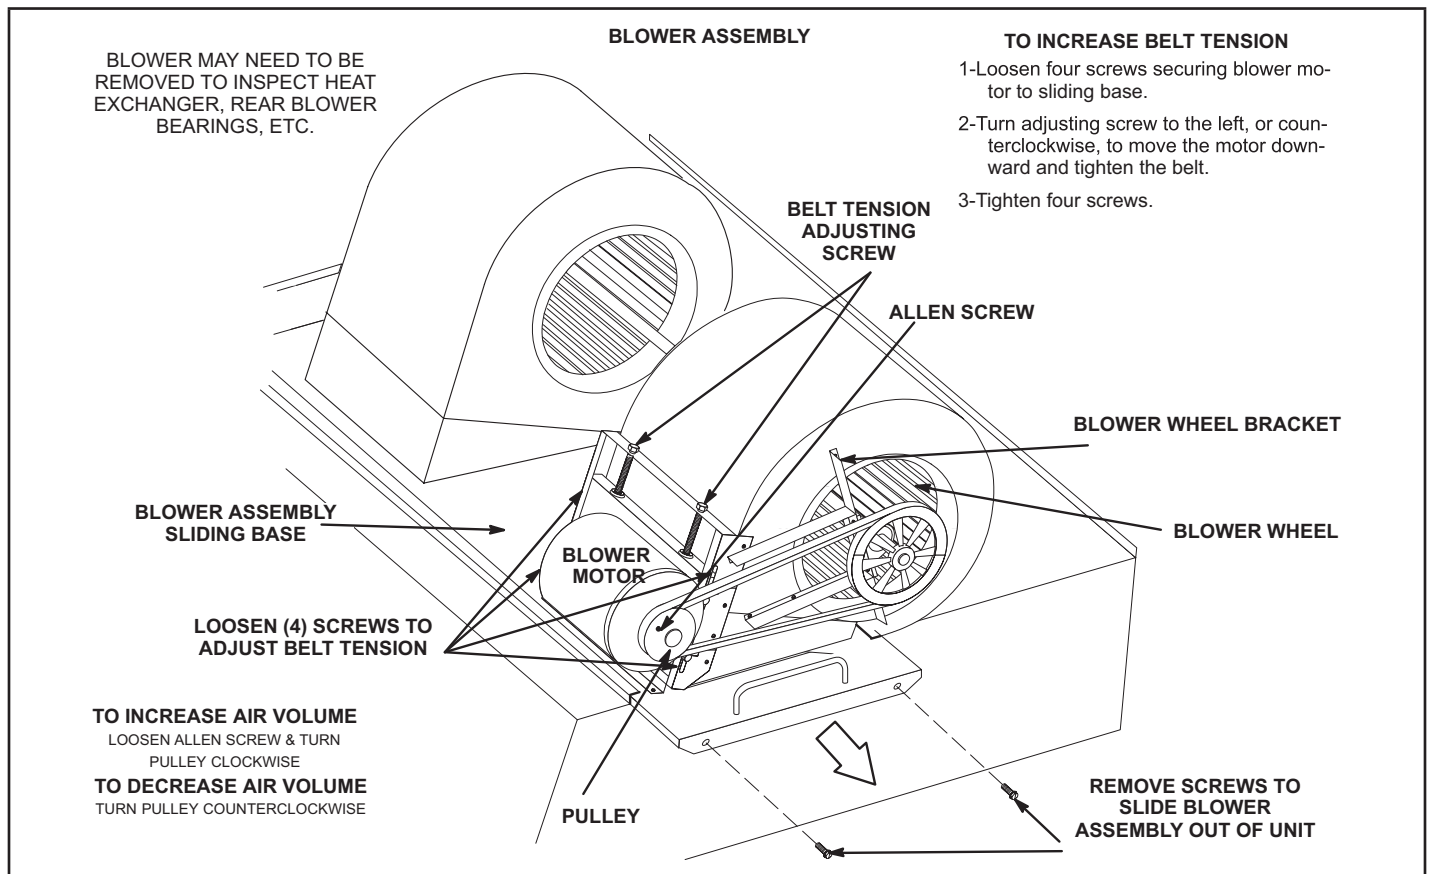

FIGURE 10
The blower compartment is located between the evaporator coil and the compressor / control section on the opposite side of the condenser coil. The blower assembly is accessed by disconnecting the blower motor wiring (and all other plugs) and removing the screws on either side of the sliding base. The base pulls out as shown in figure 10.
- 4 - The blower RPM can be adjusted at the motor pulley. Loosen Allen screw and turn adjustable pulley clockwise to increase CFM. Turn counterclockwise to decrease CFM. See figure 10. Do not exceed minimum and maximum number of pulley turns as shown in table 5.
- 5 - The RPM can be adjusted at the motor pulley. Loosen Allen screw and turn adjustable pulley clockwise to increase RPM. Turn counterclockwise to decrease RPM. See figure 10.
- 1 - Loosen four screws securing blower motor to sliding base. See figure 10.